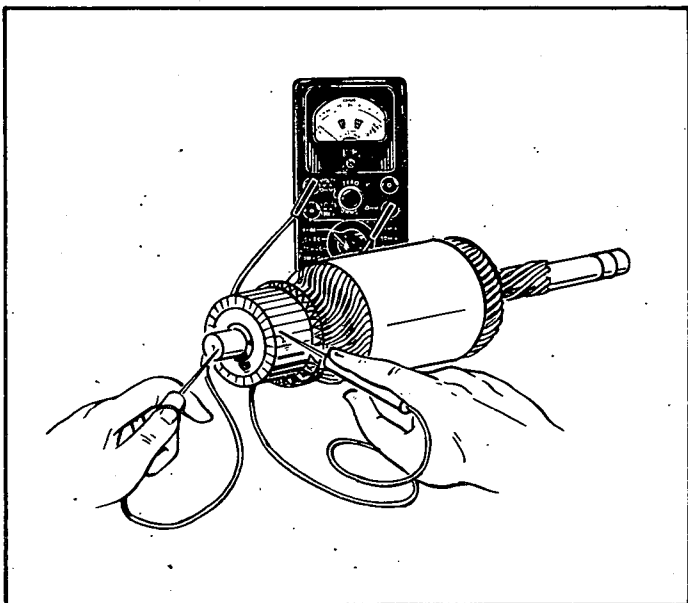

FIGURE 35. ARMATURE GROUND TEST
2. **Testing Armature for Grounds.** Touch armature shaft or core and the end of each commutator bar with a pair of ohmmeter leads. If the ohmmeter reading is low, it indicates a grounded armature. Replace grounded armature. See Figure 35.